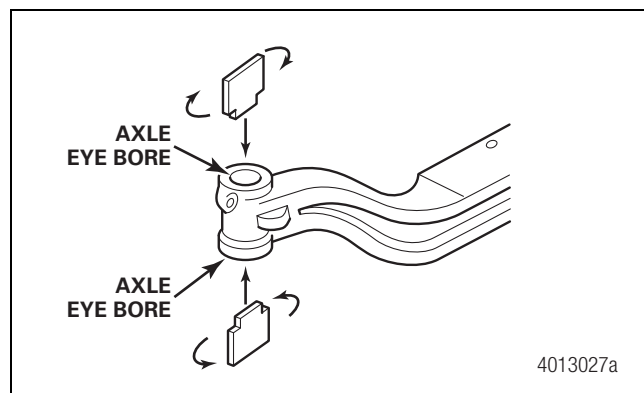

Figure 1
4. Try to insert the Go/No-Go gauge into the top and bottom axle eye bores on both sides of the axle. Figure 1.